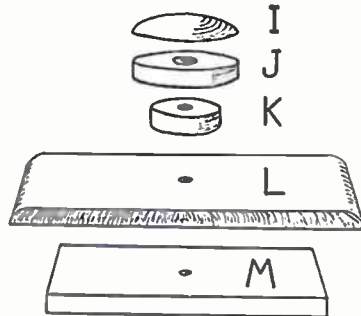

Fig. 4
An exploded view of the lid is shown in Fig. 4. 1/2 in. fretwood is used throughout. (M) is 4 ins. square, (L) 5 ins. square, the latter being rounded neatly at all four edges with glasspaper.